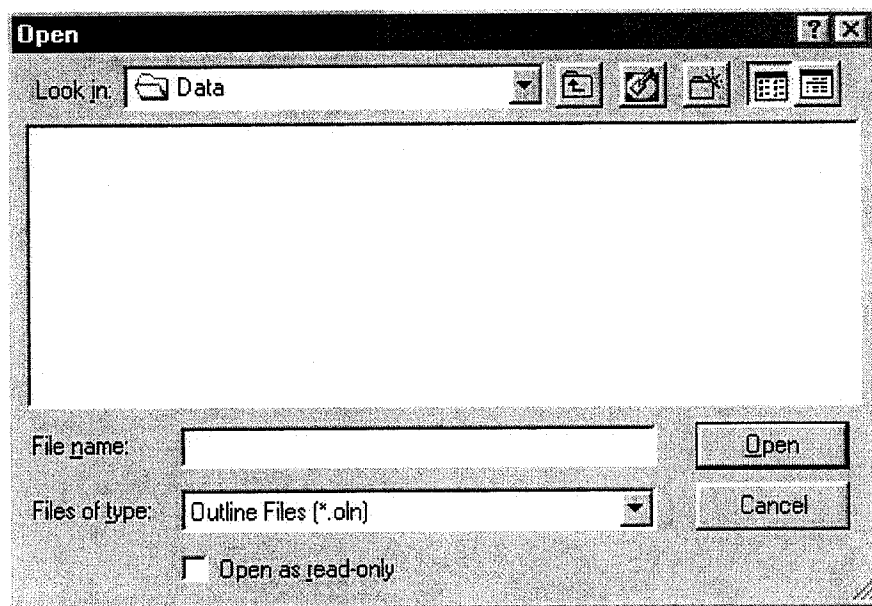

Fig. 4. 3. Open Dialog Box.
1. Select **File | Import | Outline**, and an **Open Dialog** box will be brought up (see Fig. 4. 3).